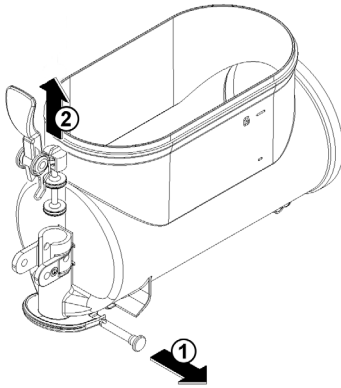

figure 7
**3** Assemble the faucet by reversing the disassembly steps (see figure 7)